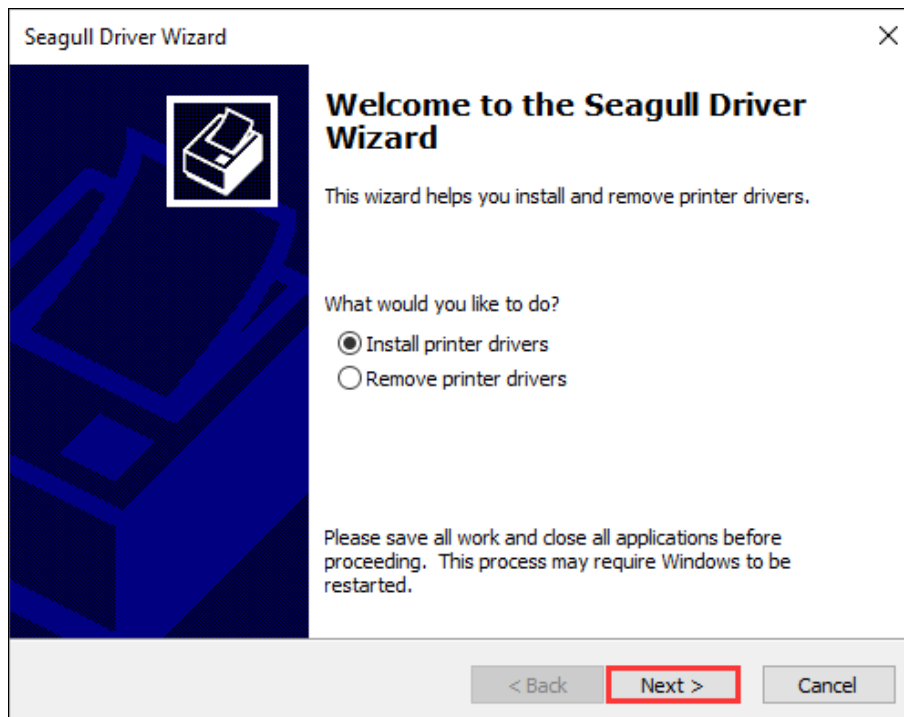

Figure 2-35 Seagull Driver Wizard Screen
6. On the “Seagull Driver Wizard” screen, select “Install printer drivers”, and then click “Next”, as shown in Figure 2-35.